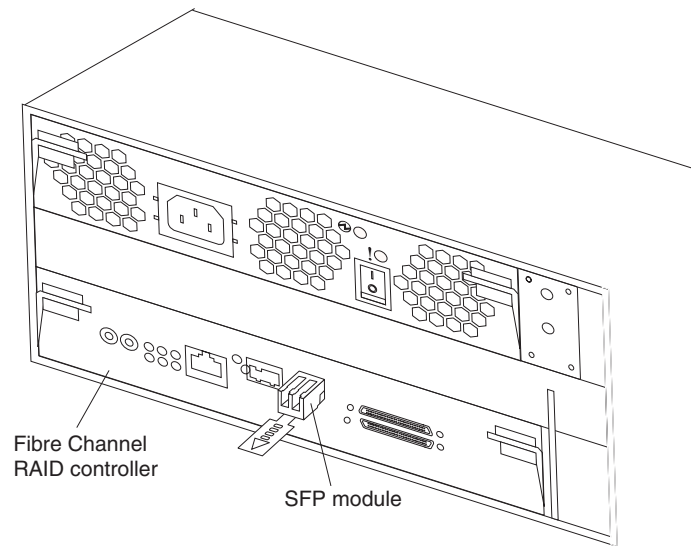

Figure 31. Installing an SFP module into the host connector
4. Rotate the SFP module so that the plastic or wire tab is on the bottom; then, insert it into the host connector until it clicks into place. See Figure 31.